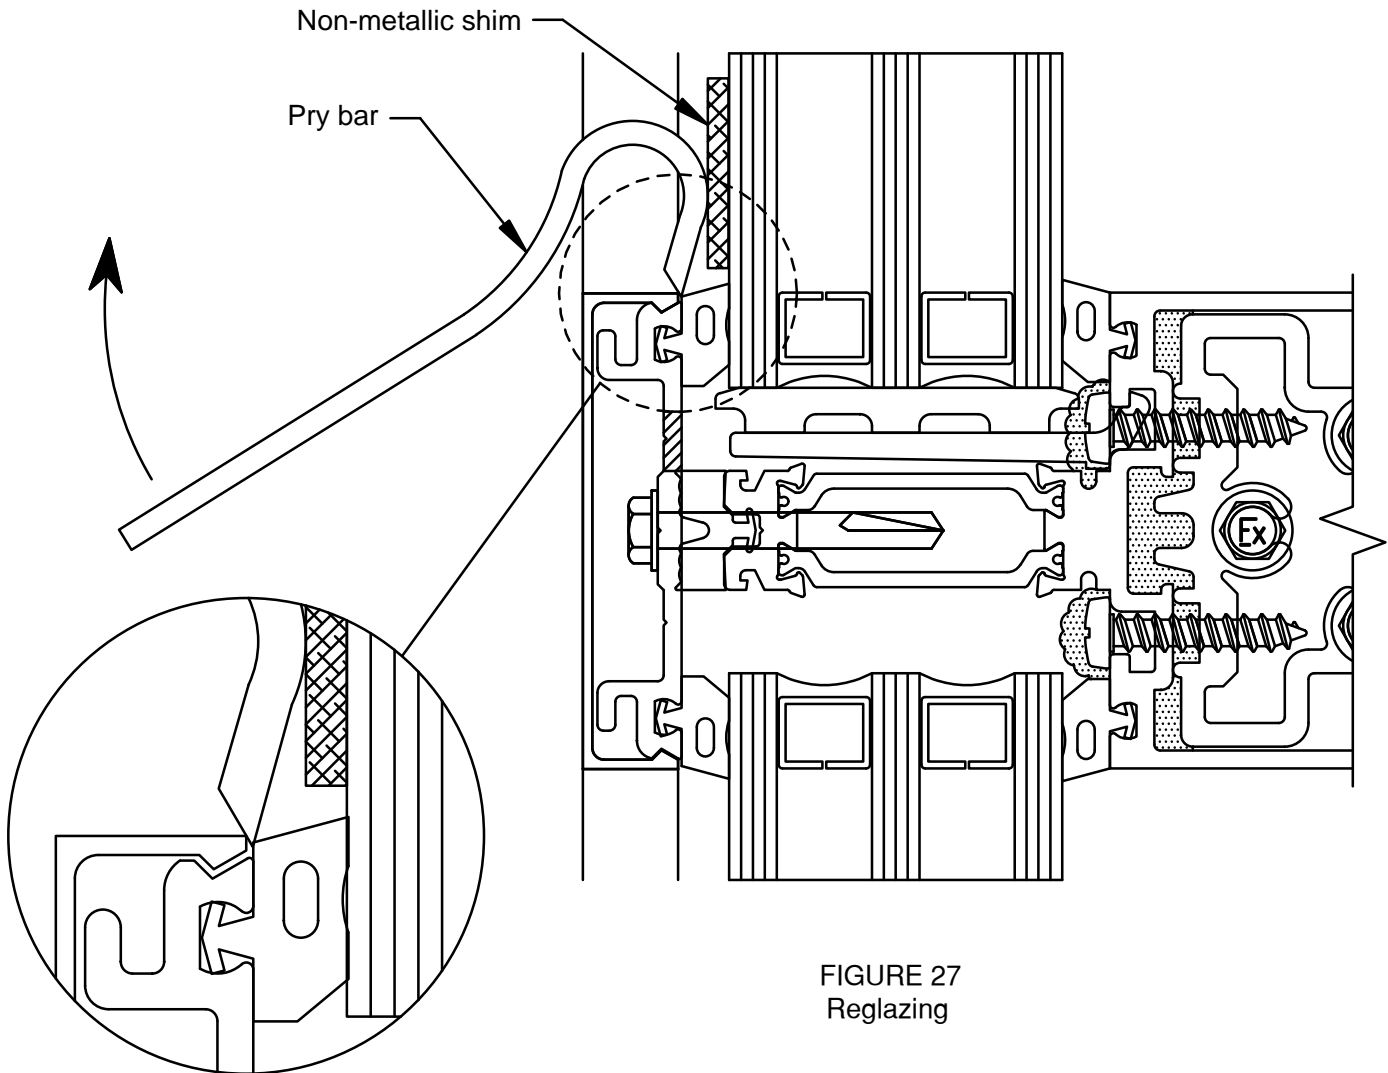

FIGURE 27
- E.1 Reglazing must be done from the exterior. carefully remove face covers surrounding the lite of glass to be deglazed. SEE FIGURE 27.